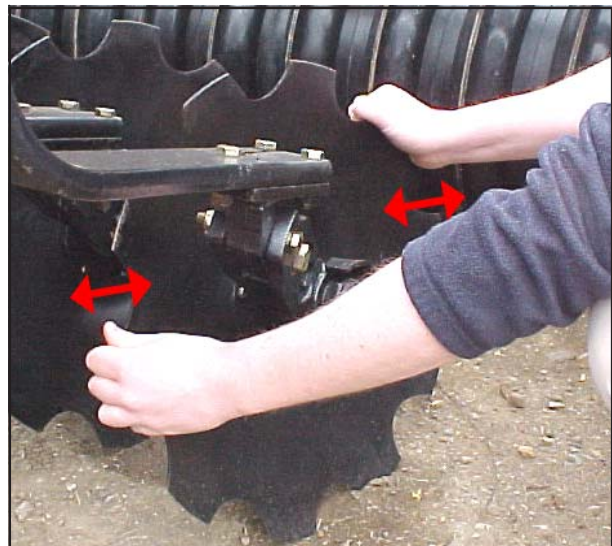

Fig. 4.05: Checking Disc Bearing Adjustment
3. Check main bearing adjustment (twin taper roller) after 50 hours and thereafter seasonally by 'rocking' the disc as per *Fig. 4.05*. If play is evident then the following procedure should be followed. Remove bearing caps and locking pins, tighten nuts to inhibit rotation before backing off the nuts slightly until disc rotation is enabled and play is eliminated (usually between 1/6 - 1/12 of a turn). Re-fit the locking pins. Fit and securely tighten disc hub caps and flush with grease until grease shows from seal area.